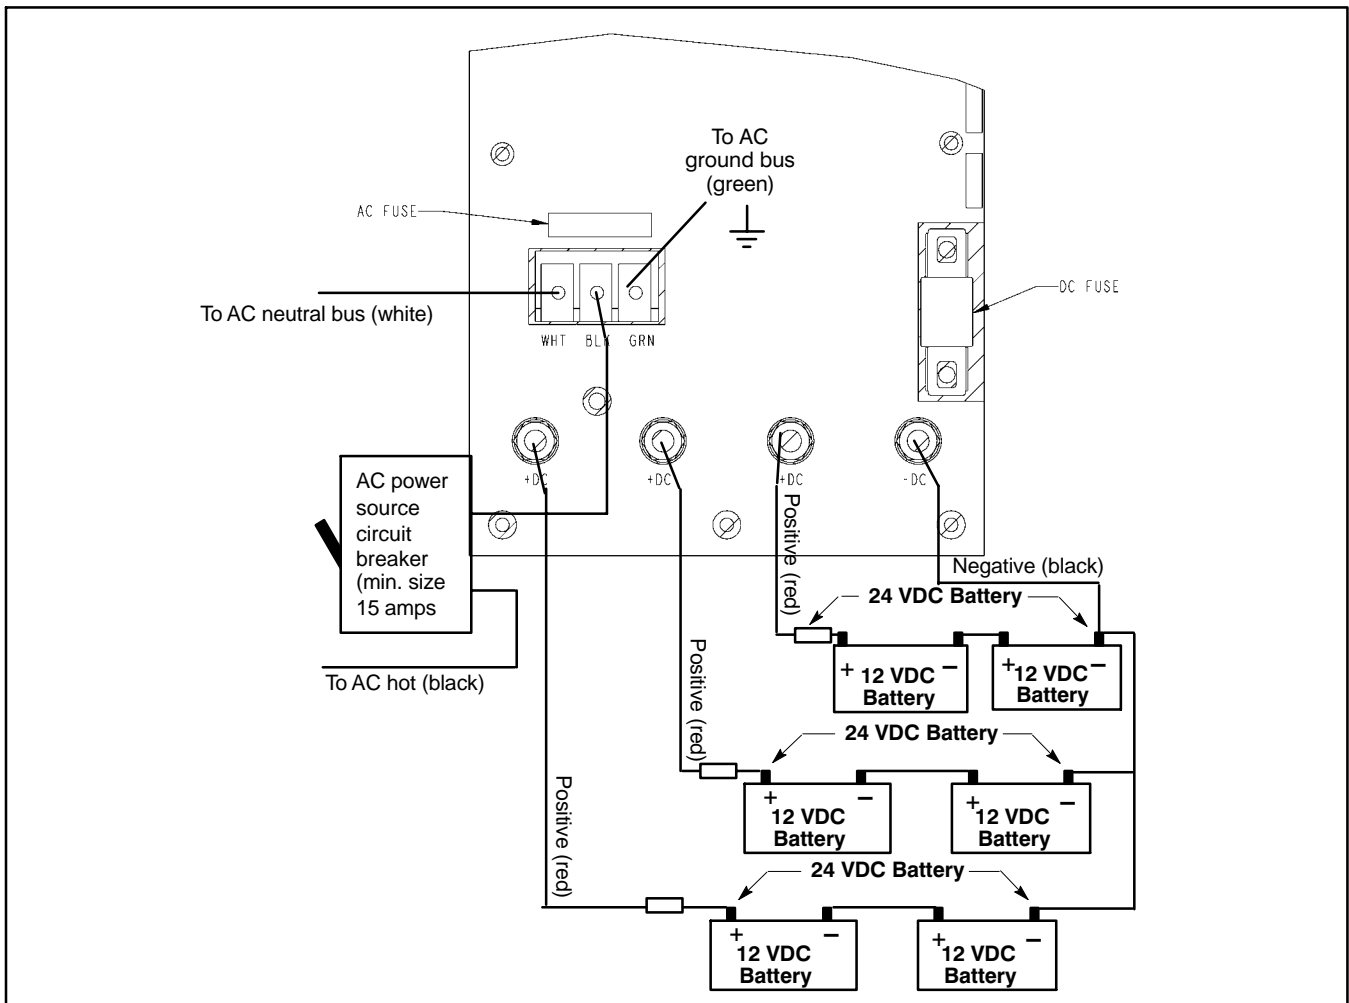

Figure 1. 24 VDC 50-, 60- & 80-Amp 5000 Series Block Diagram
After determining the wire lengths and gauges, make the AC wiring connections to TB1. (Refer to the Block Diagram in Figure 1.) Use spade terminals, and torque the screws to 8 +/-1 inch/pounds. To make connections to the terminal blocks:
2.	The AC fuse (F1) is located just above the AC terminal block (TB1). The DC fuse (F2) is located above the DC post (see Figure 1). When replacing fuses, use only fuses of the exact type and rating (See Table 5).